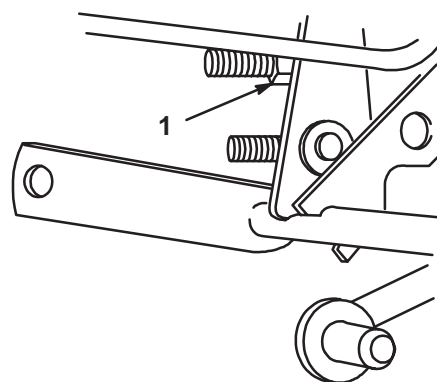

Figure 7
1. Adjust by turning transport height nut, (Fig. 7) on lift mechanism, clockwise to raise or counterclockwise to lower mower.